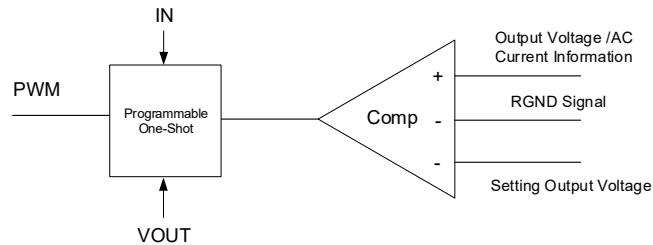

Figure 4. Simplified Control Schematic
The simplified control schematic is shown in Figure 4. The high-side switch on-time is determined solely by a one-shot whose pulse width is inversely proportional to input voltage (IN). The one-shot is triggered when the internal setting output voltage is higher than the combined information of output voltage and the AC current information of inductor and load line signal, which is processed and obtained through the sensed low-side MOSFET current once it turns-on. The added AC current information can help the stability of constant-on time control even with pure ceramic output capacitors, which have very low ESR. The AC current information has no DC offset, which does not cause offset with output load change, which is fundamentally different from other V² constant-on time control schemes.